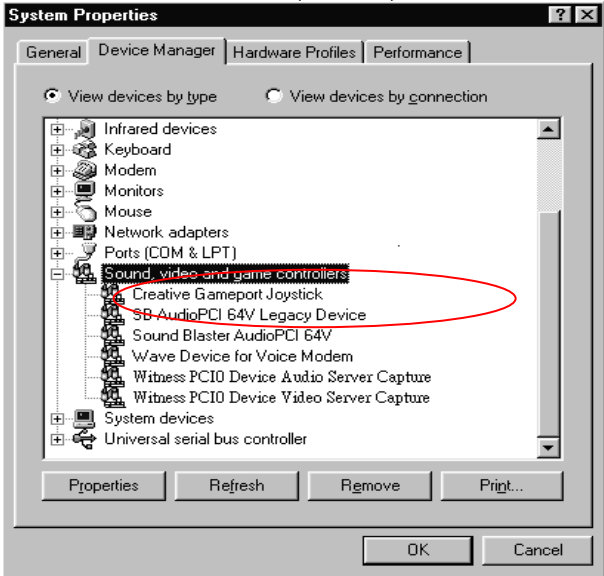

Fig. 3-3
Step 4. As Fig.3-3, select “Sound, video and game controllers”, where you will find “Witness XP PCI 0 (PCI 1, PCI 2, PCI 3) Device Video Server Capture” and “WitnessXP PCI 0 (PCI 1, PCI 2, PCI 3) Device Audio Server Capture” (For CP-1400AS XP), and select “Sound, video and game controllers”, where you will find “CP-400DX Audio/Video Server Capture”(For CP-400DX Pro).